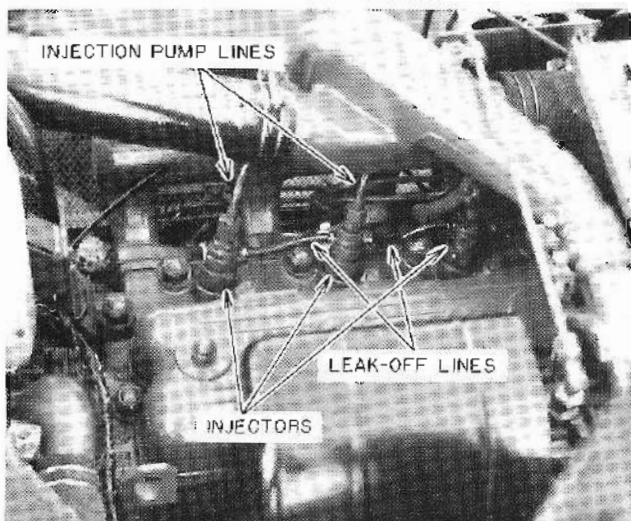

Figure 56 – Fuel Injector Leak-off Lines
1. Clean all loose dirt from around the injectors and lines. Disconnect the leak-off lines from the injectors, Figure 56.